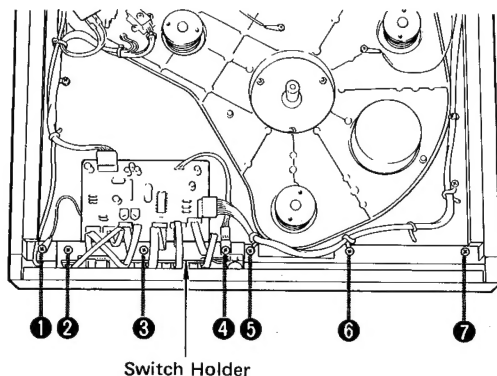

Fig. 2
2. Remove screws 1 to 7 in Fig. 2 and remove the switch holder by pulling the front panel slightly forward (at this time remove the lead wires connected to the quartz lock LED) then remove the front panel.